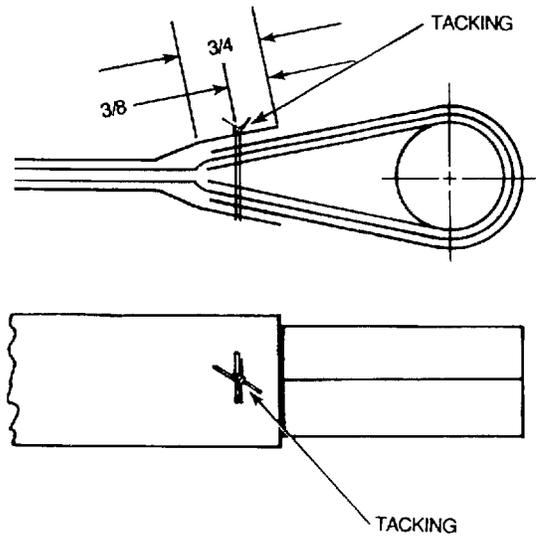

Figure 3. Tacking Drogue Riser Sleeve
e. Riser sleeve shall overlap loop sleeve by 3/4-in. Tack 3/8-in. from sleeve end, in center with one turn of size 6 thread, doubled and waxed; tie off. Tacking shall pass through riser sleeve, riser, loop sleeve, riser and riser sleeve (Figure 3).